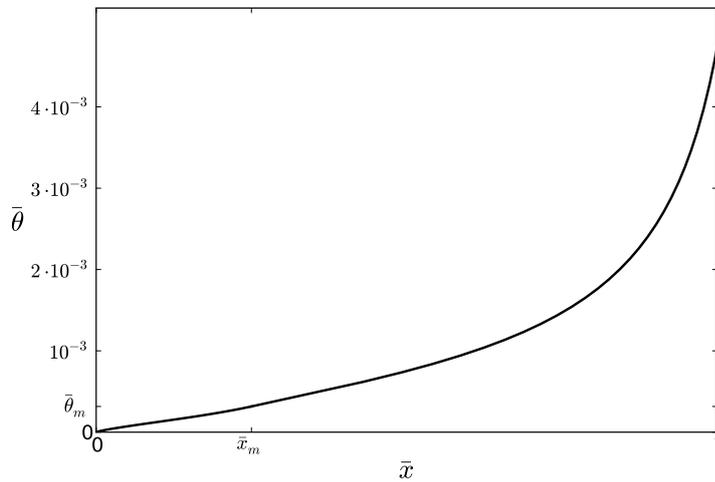

Figure 9: Nondimensional momentum thickness distribution along the airfoil chord.
- ∞. For the sake of completeness, the momentum thickness distribution can be easily computed from previous paragraphs and is shown in Fig. 9. The momentum thickness grows slowly until the coordinate for maximum velocity due to the flow being accelerated. From that point on, the recompression starts and the boundary layer grows much faster, especially towards the last quarter, where the recompression becomes stronger.